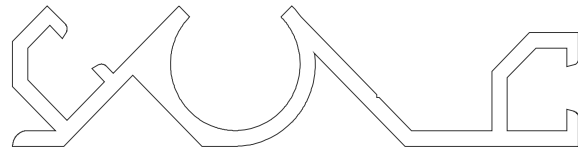

Figure 3
**STEP 3.** Drill the anchor holes into the base member subchannel at the locations marked in Step 2 (see Figure 3). Repeat Step this procedure for each base member subchannel section.